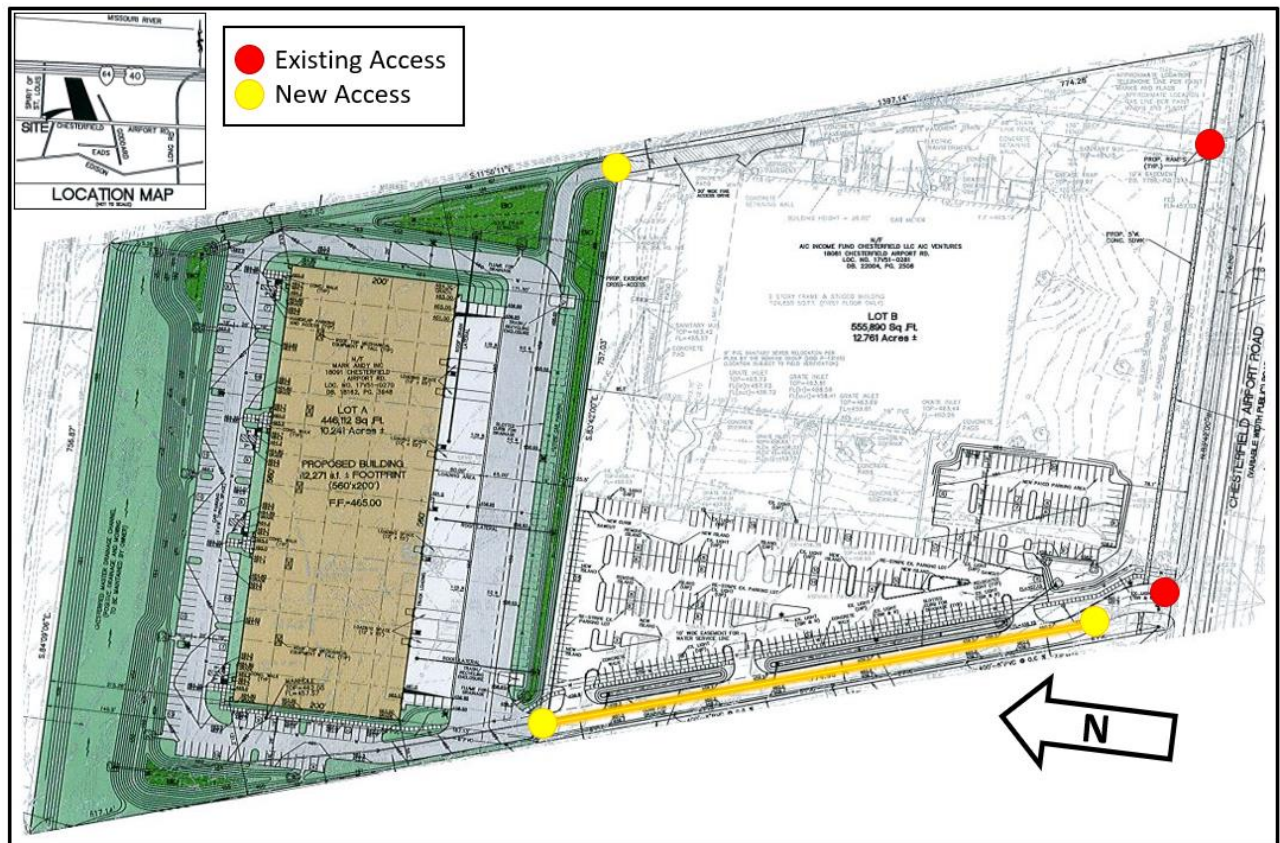

Figure 2: Color Site Development Section Plan Excerpt
Although Lot B currently has two (2) dedicated entrances, Lot A will be served by the entrance to Chesterfield Airport Rd. on the southwest corner of Lot B, as well as a secondary entrance to the east through Lot B. Per Ordinance 2437, the western entrance is to be improved with the development of Lot A. Additionally, a cross-access easement is proposed to the southeast of Lot A for potential access to the cul-de-sac of N. Goddard Ave. This fulfils a requirement set in the governing ordinance regarding circulation and access and can be seen on Figure 2 below.